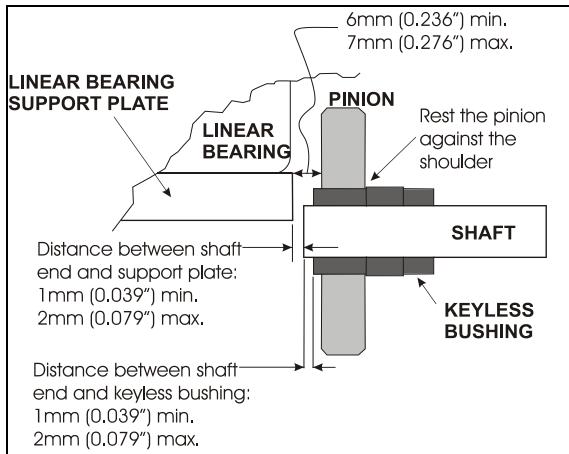

FIGURE 11: PINION AND KEYLESS BUSHING POSITIONING
3. Properly position the shaft end in relation to the linear bearing support plate (See FIGURE 11) and then tighten the locking collars to maintain the shaft in that position.
4. Position pinion and keyless bushing as shown on FIGURE 11 and tighten the keyless bushing as described in paragraph 5.4.